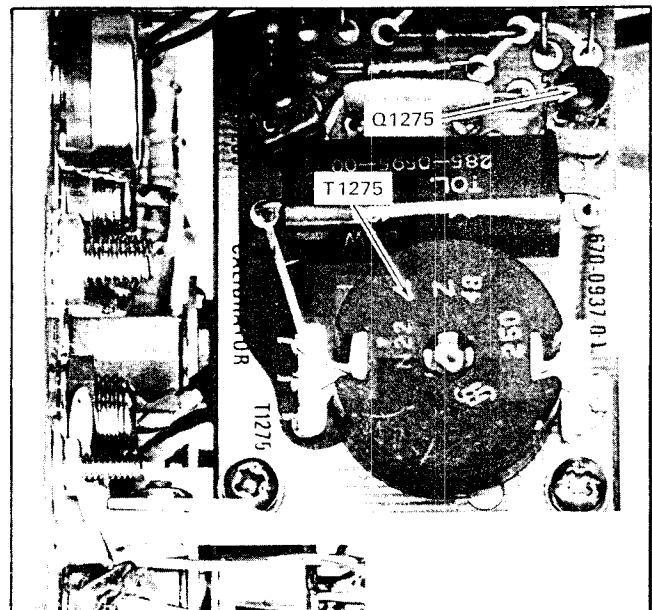

Fig. 5-4. Location of Q1275 and Calibrator frequency adjustment T1275 (Calibrator circuit board).
a. Remove Q1275 (located behind swing-out side panel; see Fig. 5-4) from its socket on the Calibrator circuit board.
f. ADJUST—Calibrator Frequency adjustment T1275 (see Fig. 5-4) for one cycle of calibrator waveform for each time mark.
i. ADJUST—Calibrator Frequency adjustment T1275 (see Fig. 5-4) for minimum drift of time markers.